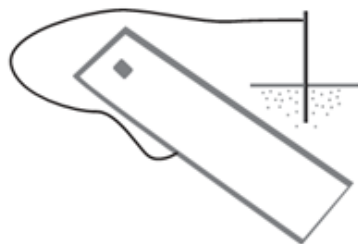
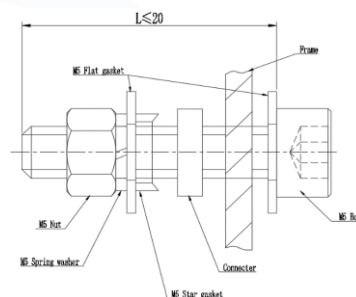

Figure 9 Module grounding circuit
Figure 10 Installation diagram of grounding bolt
4.1.3 The aluminum frame and support of the module must be grounded, as shown in Figure 9. Each module has a grounding hole and is marked on the frame (it is recommended that the series / parallel connection of each module must be grounded once). The installation method of grounding bolt is shown in FIG. 10. The grounding wire and frame can be reliably grounded by the prepared grounding hole. And the flat washers, spring washers and nuts are matched by installing bolts M5 × 10 ~ 15. The modules and the earth wire shall be perfectly connected by connecting plugs. Negative grounding inverter can be installed to prevent PID phenomenon.